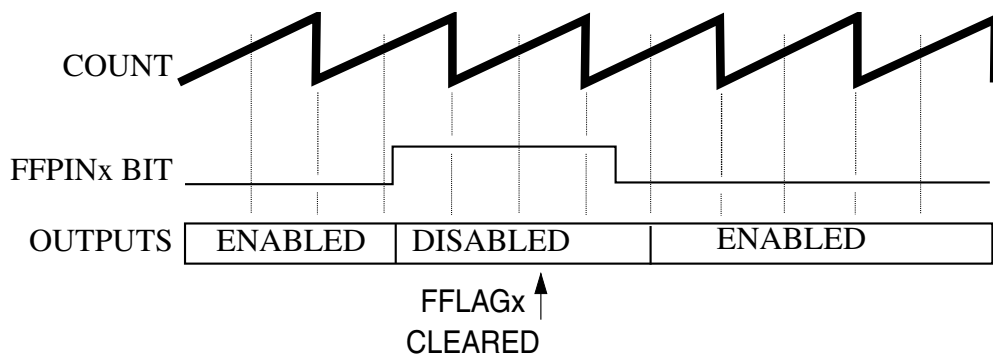

Figure 108. Manual fault clearing (FCTRL[FSAFEx] = 1, FSTS[FHALFx] = 1)
- The filter detects a logic zero on the FAULT_x pin at the start of the next PWM full or half cycle boundary, as shown in Figure 108. If FSTS[FFULL_x] is set, then the disabled PWM pins are enabled at the start of a full cycle. If FSTS[FHALF_x] is set, then the disabled PWM pins are enabled at the start of a half cycle.